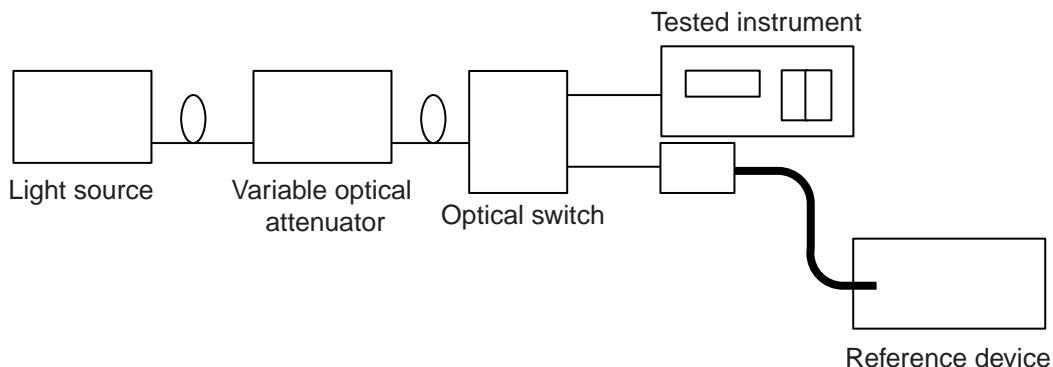

Fig. 5-4
1. Set up the measurement system as in Fig. 5-4.